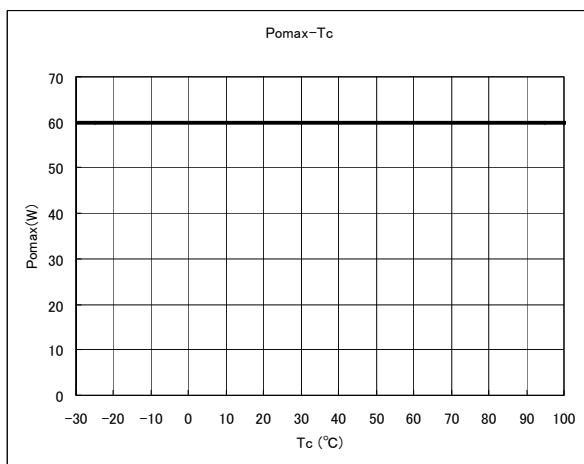
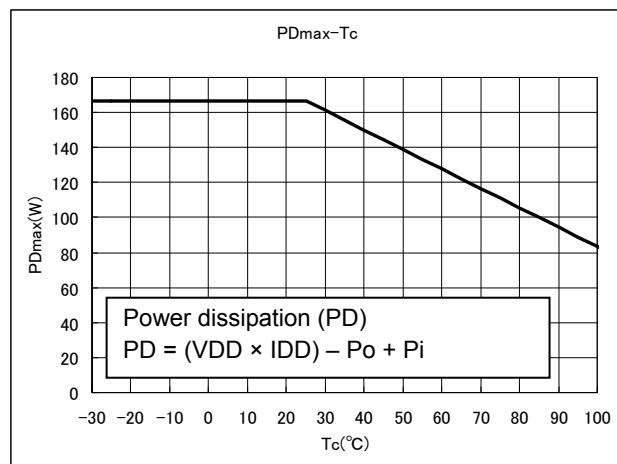

Figure 1 P_{omax}-T_c
Figure 2 P_{Dmax}-T_c
Note 2: The output power rating satisfies the range shown in Figures 1 and 2 according to the operating case temperature. Ensure that the device should be operated within the specified operating range. The figures below indicate the output power obtained 2 seconds after P_o is generated.
*When the device is used at T_c = 100°C, the output power rating is 60 W as shown in Figure 1. When the power dissipation at T_c = 100°C exceeds the rating shown in Figure 2, the output derating is required to limit the dissipation within the specified range.
Note 5: The output power is intended to follow the rating provided in Figure 1 in Note 2.